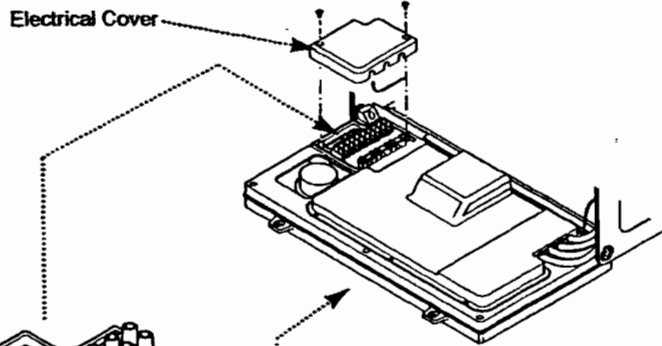

Fig. 29
2. Undo the two screws securing the small cover and remove the cover (Fig. 29).